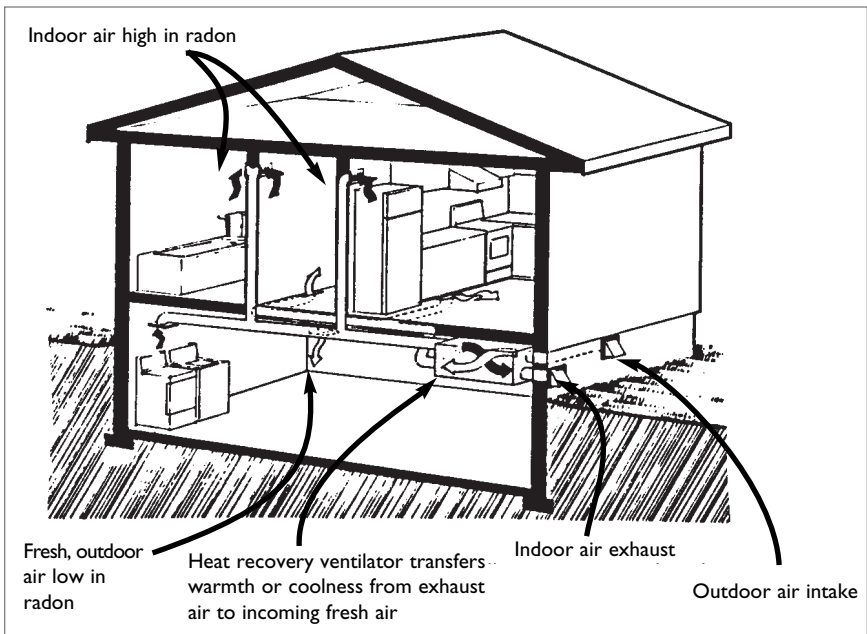

Figure 14: Increasing ventilation with a HRV
Rather than relying upon natural air movement to remove radon from a home, mechanical ventilation can be used. A system with balanced intake and exhaust air flows is essential so that the house is not depressurized, which may draw in more radon. This can be accomplished by installing a heat recovery ventilator (HRV) (*see* figure 14).
- Install a balanced ventilation system, such as a heat recovery ventilator (HRV). A balanced system relies on both supply and exhaust fans to provide ventilation (*see* figure 14, page 23). An HRV will reduce the energy penalty associated with providing more ventilation to a home.